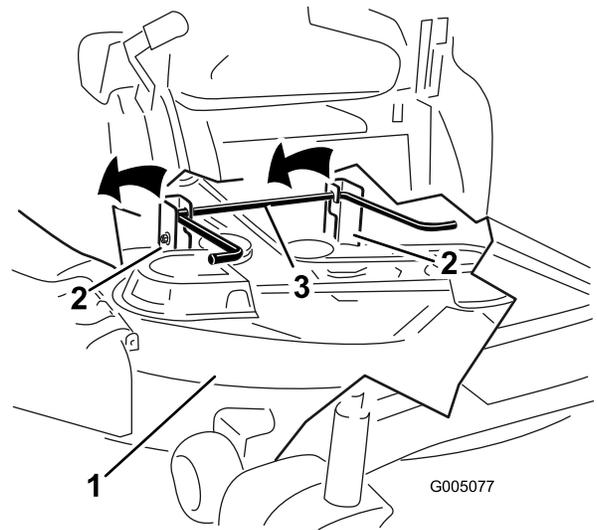

Figure 43
- Lift the mower and hanger brackets clear of the rear lift rod and lower the mower carefully to the ground (Figure 43).
- Lift the rear of the mower deck and guide the hanger brackets over the rear lift rod (Figure 43).